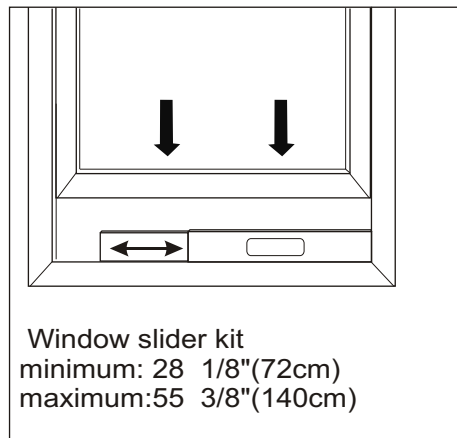

FIGURE 2
2. Attach the unit end of the exhaust hose to the back of the air conditioner by pushing it into the exhaust outlet and twisting to lock it in place as depicted in FIGURE 2.